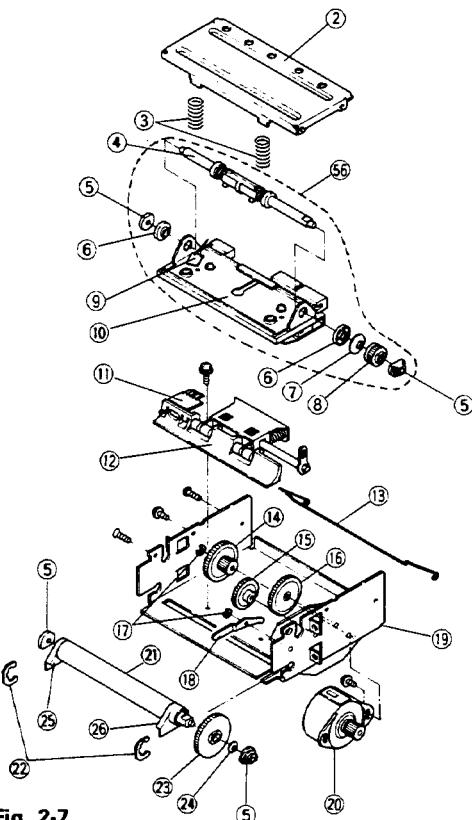

Fig. 2-7
(Note) If the rubber roller is scuffed, replace the platen assembly ②. (Fig. 2-7)